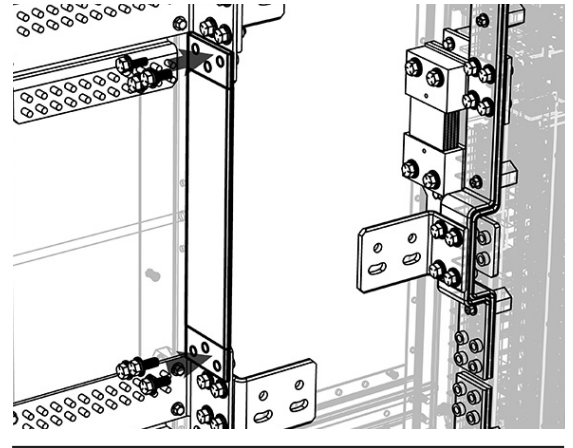

Figure 34. RTN Jumper
- Step 2. For each return jumper, insert the six 3/8 in. bolts with flat and lock washers through the pems located on the return buses. Take caution as to not drop any hardware during this process (see Figure 34).